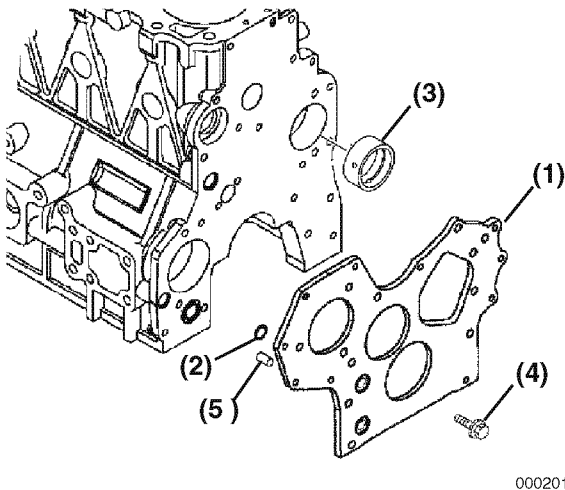

Figure 6-145
4. TNV84 - TNV88: Reinstall the dowels (**Figure 6-145, (5)**) and a new O-ring (**Figure 6-145, (2)**).
5. Reinstall the gear case (**Figure 6-144, (1)**) or front plate (**Figure 6-145, (1)**). Tighten the bolts to the specified torque.